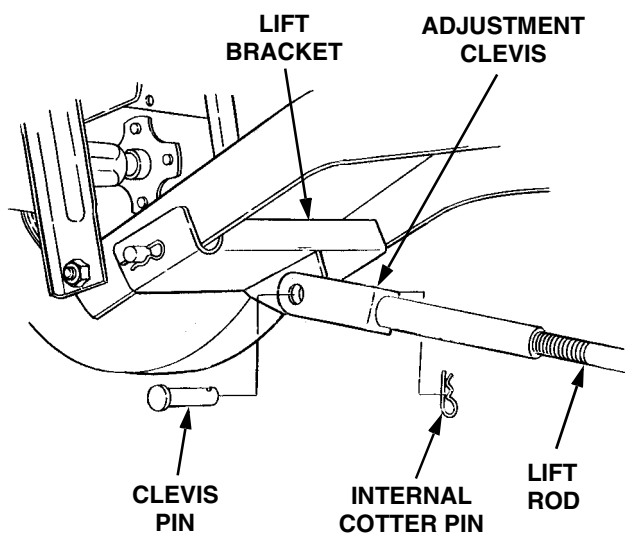

Figure 14
3. Remove the adjustment clevis (4) from the lift bracket by removing the internal cotter pin (14) and clevis pin (9). See Figure 14.